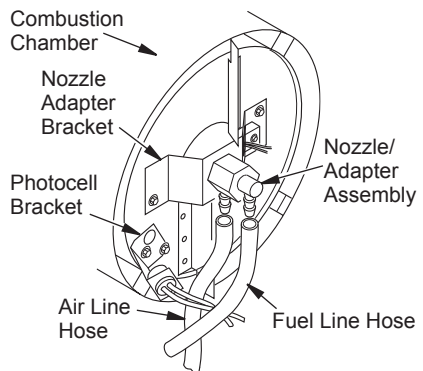
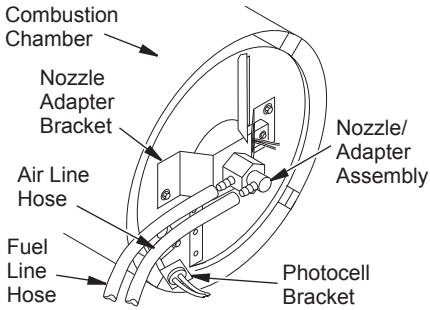
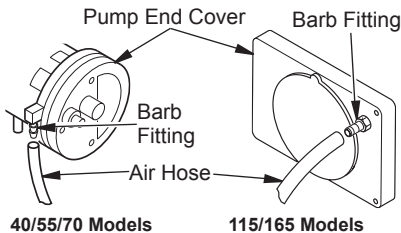

Figure 23 - Removing Air and Fuel Line Hoses (40/55/70 Models Only)
Figure 24 - Removing Air and Fuel Line Hoses (115/165 Models Only)
Figure 27 - Air Hose to Barb Fitting
9. Carefully guide ignitor into opening in nozzle adapter bracket. Do not strike ignitor element. Attach ignitor to nozzle adapter bracket with screw using a 1/4" nut driver (see Figure 23). Torque .90 to 1.69 N-m (8 to 15 in-lbs) Do not over torque.
14. Replace photocell in photocell bracket. Route wires as shown in either (see Figure 23 or Figure 24, page 13).
3. Remove fuel and air line hoses from nozzle assembly (see Figure 23, page 12 or Figure 24).
4. Inspect fuel and air line hoses for cracks and/or holes. If fuel line hose is damaged, disconnect from nozzle adapter (see Figure 23 or 24) and from fuel filter (see *Fuel Filter*, page 11). If air line hose is damaged, disconnect from nozzle adapter (see Figure 23, page 12 or Figure 24, page 13) and from barb fitting on pump end cover (see Figure 27).
5. Install new air and/or fuel line. Attach one end of air line hose to barb fitting on pump end cover (see Figure 27) and the other end to nozzle adapter (see Figure 23, page 12 or Figure 24, page 13). Attach one end of fuel line hose to fuel filter (see *Fuel Filter*, page 11) and the other end to nozzle adapter (see Figure 23, page 12 or Figure 24, page 13).
Note: Route hoses as shown in Figure 23, page 12 or Figure 24, page 13, according to model. Hoses are not to touch photocell bracket.